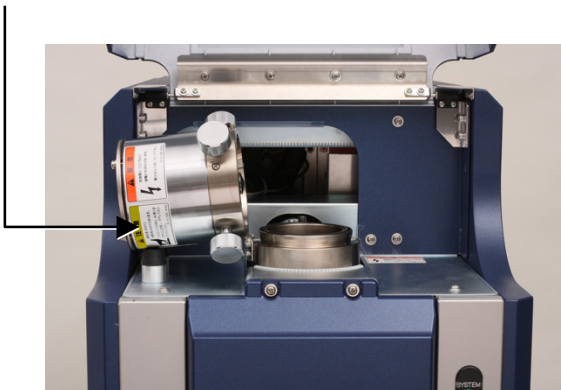

Figure 5.3-1
4. There is a rubber cushion on the left side of the electron gun. Tilt the electron gun to the left side of the system until it touches the cushion, and then gradually open the electron gun, as shown in Figure 5.3-1.